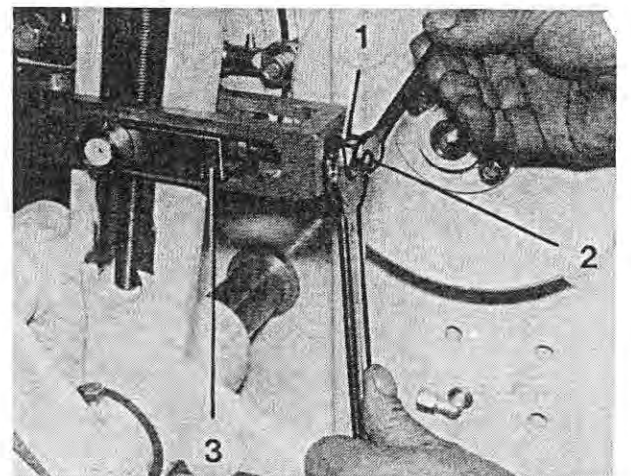

Fig. 243
2. Loosen the counternut (Figure 243/1) and screw out the spindle (Figure 243/2) a few turns.
Adjust the counter-bearing (Figure 243/3) of the lateral sliding pads.
Tighten the counternut (Figure 243/1) by holding the spindle.